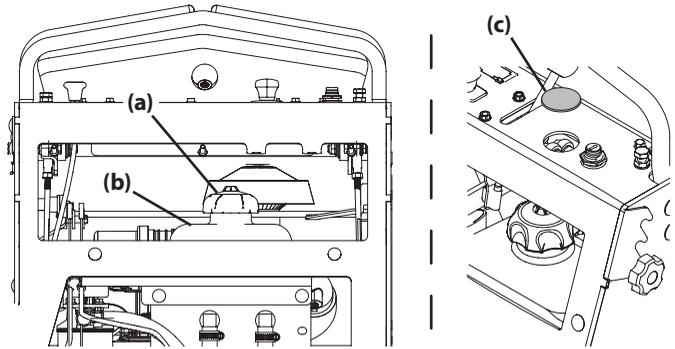

Figure 28
5. Mowers with 48, 54 or 60 inch Mowing Decks Only: Insert a funnel into the reservoir (b). (Figure 28).
- g. Remove the black cap (c) from the control panel by reaching under the panel and squeezing the two tabs and pushing up (Figure 28).